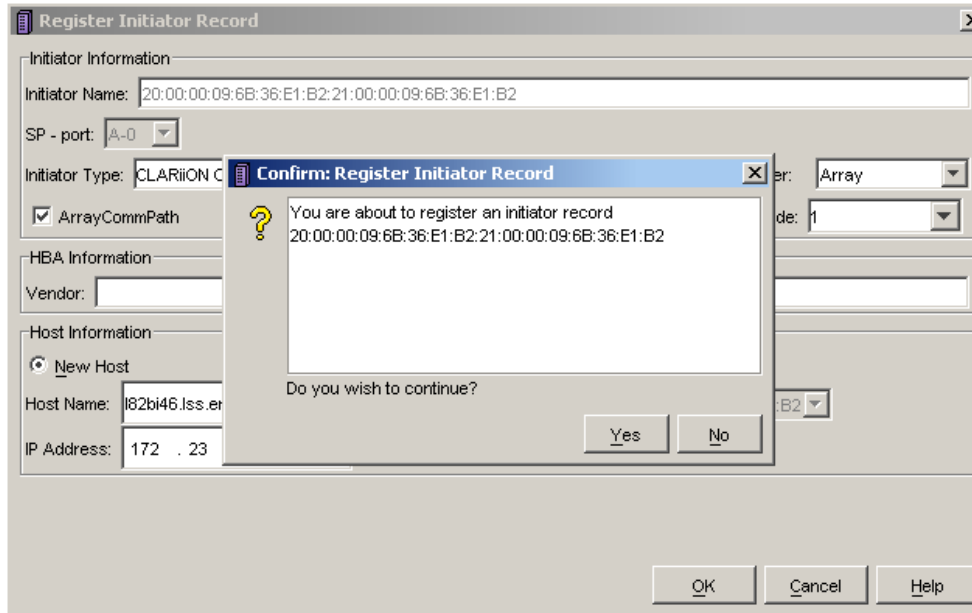

Figure 8-42 Register Initiator Record window
14. Ensure the Initiator Type, CLARiiON Open, is displayed. In the new Host Name field, type in the fully-qualified domain name and IP Address; in our example, they are i82bi46.lss.emc.com and 172.23.189.46. Click **OK**. You will see a window similar to Figure 8-42 on page 259.